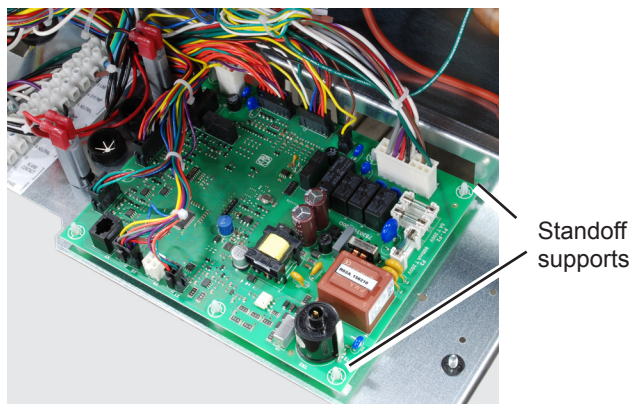

Fig. B30-3 - Standoffs Supporting Control Board
8. The control board is supported on a set of six standoffs. See Fig. B30-3. The easiest way to release the board is to work with the *lower* part of each standoff first - the part below or behind the board.